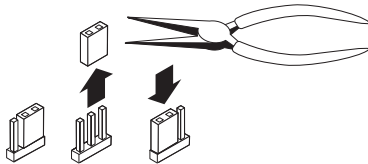

Figure 2-5 — Changing jumper settings
- To change the jumper configuration, use pliers to pull the jumper shunt off the pins, then place the jumper on the appropriate pins (figure 2-5).